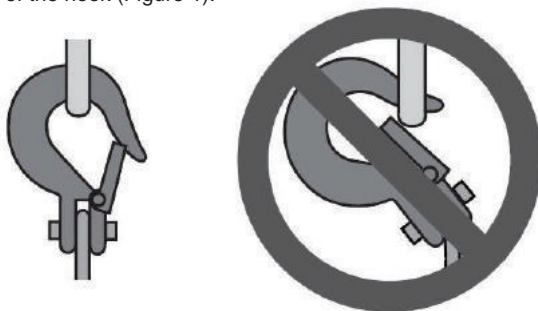

Figure 1
1. Properly seat the suspension hook on the supporting structure at its intended load bearing point (Figure 1). Do not allow the hook hitch to support any part of the load. Do not apply the load to the point of the hook (Figure 1).